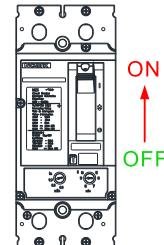

Figure 2
- 3.Push the grid input circuit breaker to the "ON" position, indicating that the grid input breaker is closed, as shown in Figure 2. (For versions with circuit breaker).